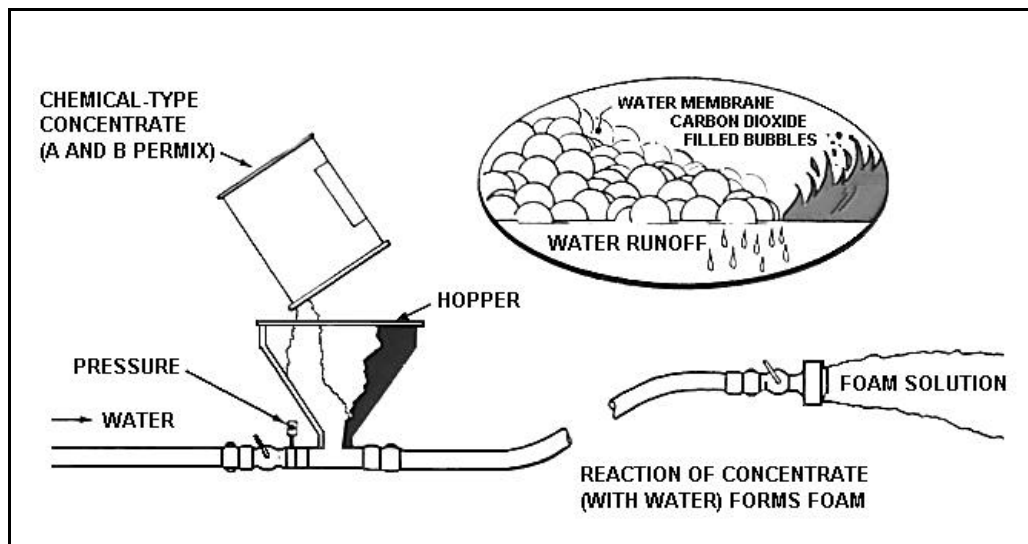

Figure 11-14. Production of Chemical Foam
- **Chemical foam.** You can form chemical foam by mixing an alkali (usually sodium bicarbonate) with an acid (usually aluminum sulfate) in water (Figure 11-14). When chemical foam was first introduced, these substances were stored in separate containers. They are now combined in a sealed, airtight container. A stabilizer is added to make the foam tenacious and long-lived. When these chemicals react, they form a foam or froth of bubbles filled with carbon dioxide gas. The carbon dioxide in the bubbles has little or no extinguishing value. Its only purpose is to inflate the bubbles. From 7 to 16 volumes of foam are produced for each volume of water.